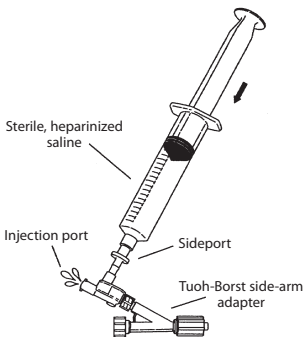

Fig. 2
4. Connect the dual check valve to the clear Tuohy-Borst adapter. The Tuohy-Borst valve should be closed completely. Connect a 20 mL heparinized saline-filled syringe to the sideport of the dual check valve adapter and slowly purge air from the injection port. (Fig. 2)